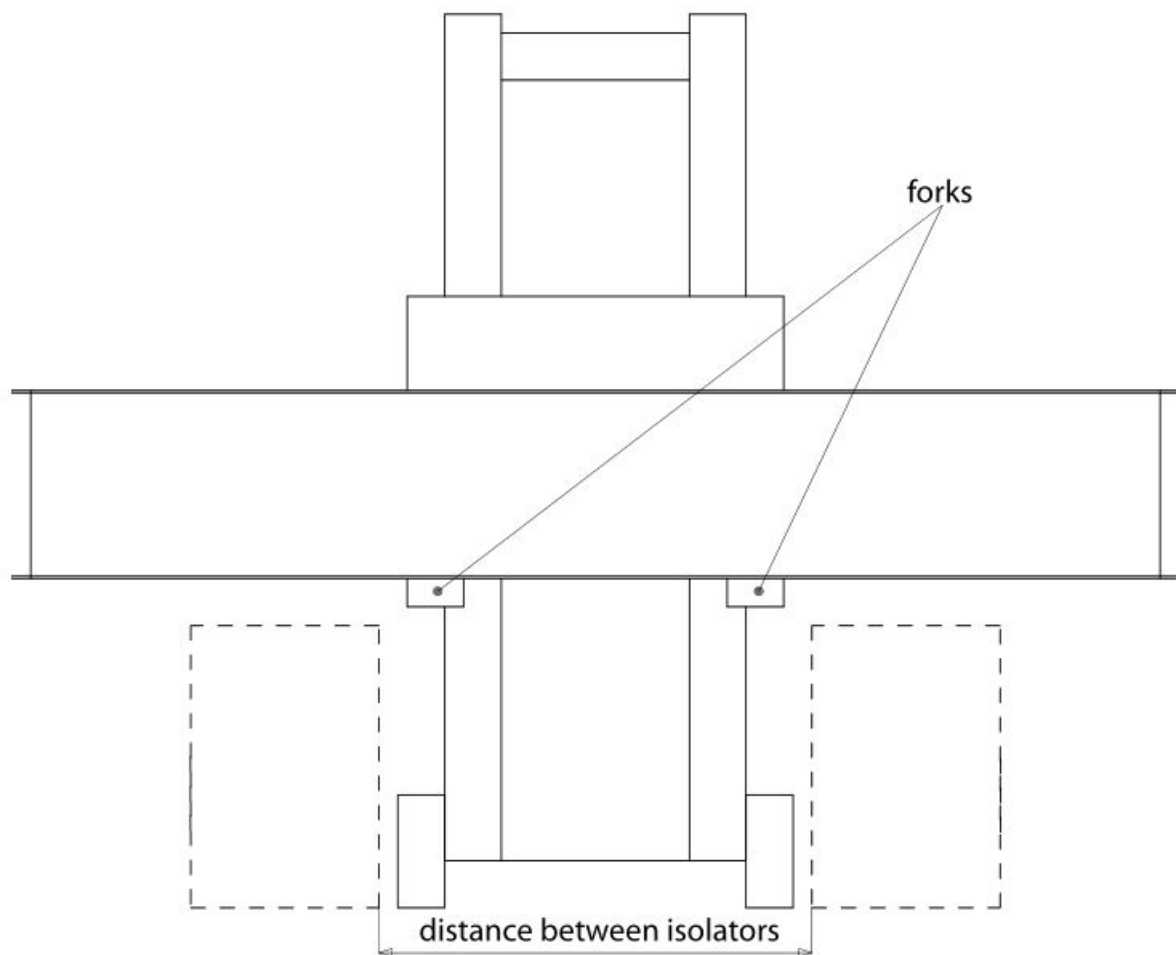

Fig. 3.2 Distance between forks
- 1) Raise the table on a fork-lift truck, ensuring that the fork distance is set such that the forks can pass between the isolators when the table is lowered into position – See Fig. 3.2.